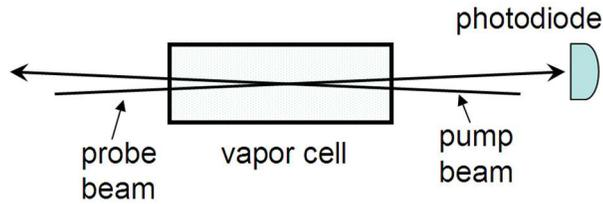

Figure 12. The basic saturated absorption spectroscopy setup. The two laser beams are tilted here for clarity; in practice the beams overlap.
**Qualitative picture of saturated absorption spectroscopy – 2-level atoms.** To see how SAS works, consider the experimental setup shown in Figure 12. Two lasers are sent through an atomic vapor cell from opposite directions; one, the “probe” beam, is very weak, while the other, the “pump” beam, is strong. Both beams are derived from the same laser and therefore have the same frequency. As the laser frequency is scanned, the probe beam intensity is measured by a photodetector. If one has 2-level atoms in the vapor cell, one might record spectra like those shown in Figure 13. The left plot gives the probe beam absorption without the pump beam, showing simple Doppler-broadened absorption. Here the Doppler width is much larger than the natural linewidth, of  $\Delta f_{Doppler} \gg \Gamma$ , and the optical depth of the vapor is fairly small, so the probe spectrum is essentially a simple Gaussian profile.